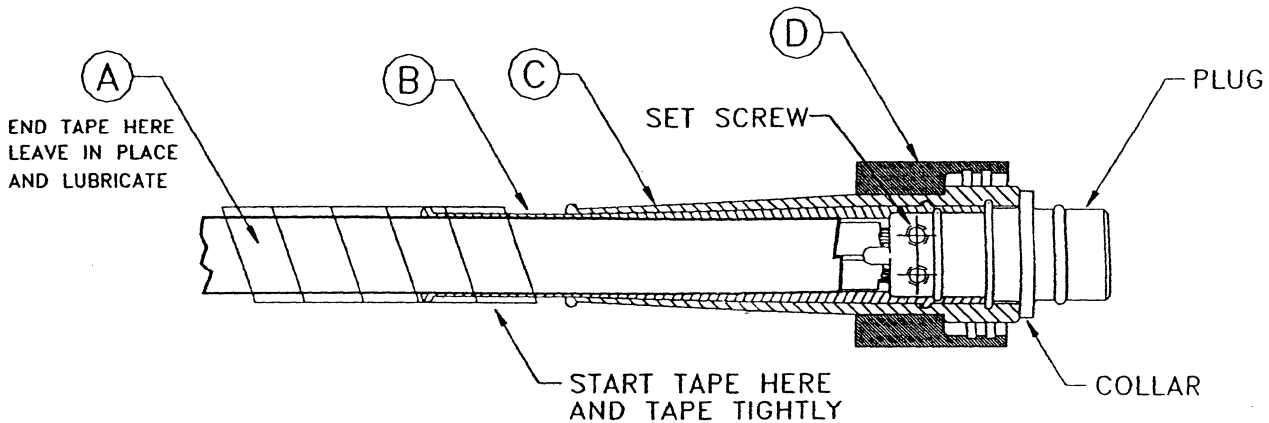

FIGURE 6
f) Insert the wire leads into Plug (Cable Adapter) connectors. Using a 5/64" Allen Wrench tighten the set screws (Fig. 6).
g) Slide the Inner Cable Boot (Part B) over the plug until it is flush with the first step on the collar (Fig. 6). Wipe the grease from the surface of Inner Cable Boot and cable. Tape end of Inner Cable Boot tightly to the cable. Be sure to tape well below the Inner Cable Boot on the cable.
h) Lubricate the outer surface of the Inner Cable Boot and tape with supplied O-Ring grease. Slide the Outer Cable Boot (Part C) over the Inner Cable Boot until it is flush with the second step on the collar (Fig. 6).